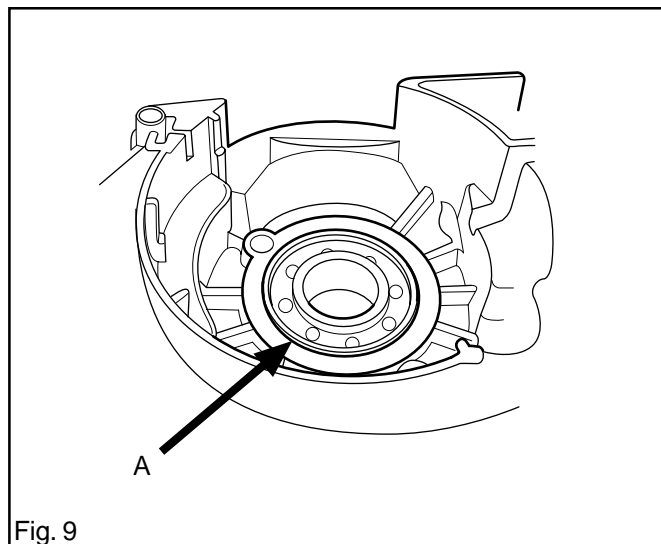

Fig. 9
- B. Use protective gloves and fit the bearing in the crankcase side on the flywheel side. When fitting the bearing in clutch side's crankcase half the bearing should be fitted flush with the inside of the crankcase (A). See fig. 9.